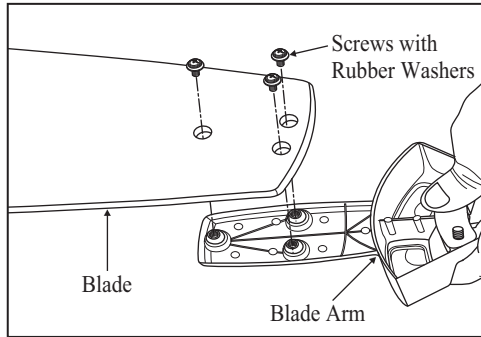

Figure 8
1. Attach blades to blade arms using three screws with rubber washers (Fig. 8). Start a screw into the blade arm, do not tighten. Repeat for the 2 remaining screws and washers.